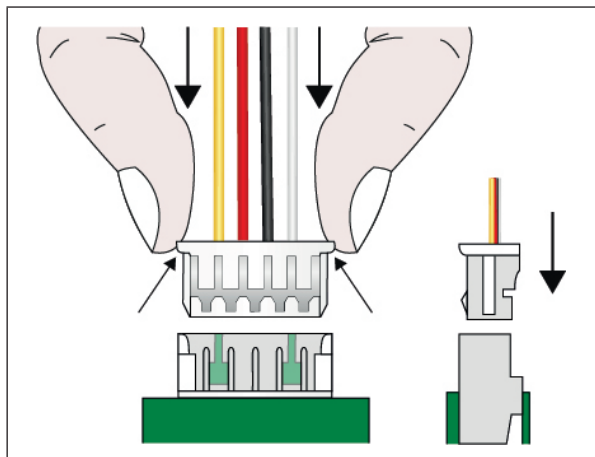
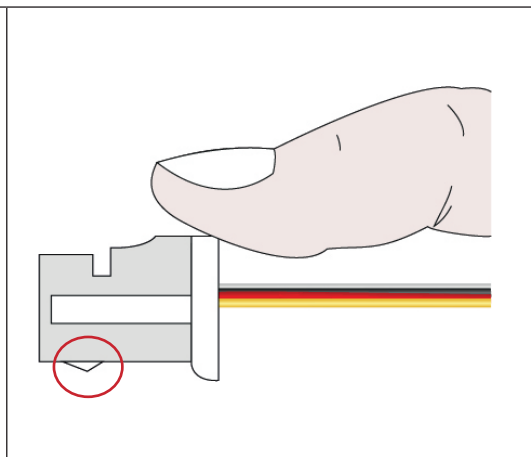

Fig. 4-2: Insert the plugs straight.
Fig. 4-3: Pull the plug to disconnect the cable.
- ☞ Take hold of the notch between plug and socket and pull the plug (Fig. 4-2).
- ☞ Insert the plug slowly axially and straight into the socket (Fig. 4-2). The latches are located on the lower side of the plug (see marking Fig. 4-3).